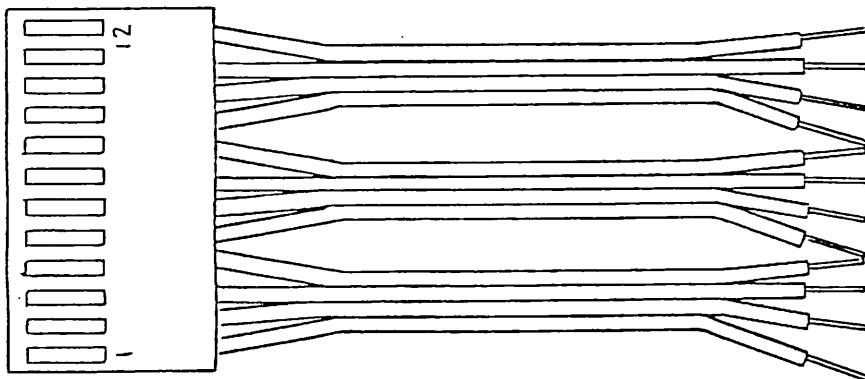

Figure 8-1. Flat-wire Type Cable
- A flat-wire type cable, with female connector (see Figure 8-1) which plugs into a male 12-pin in-line connector on the switch board.